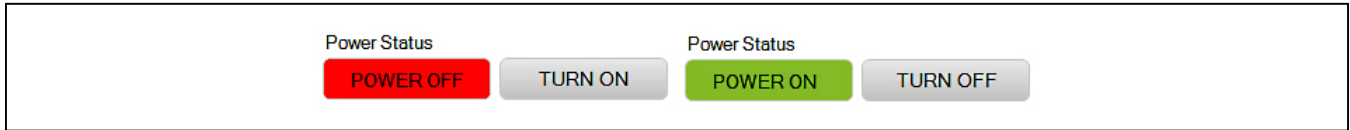

Figure 11. Power On Device
- d. Select the appropriate part in the “Device Type” drop-down box (see Figure 11).